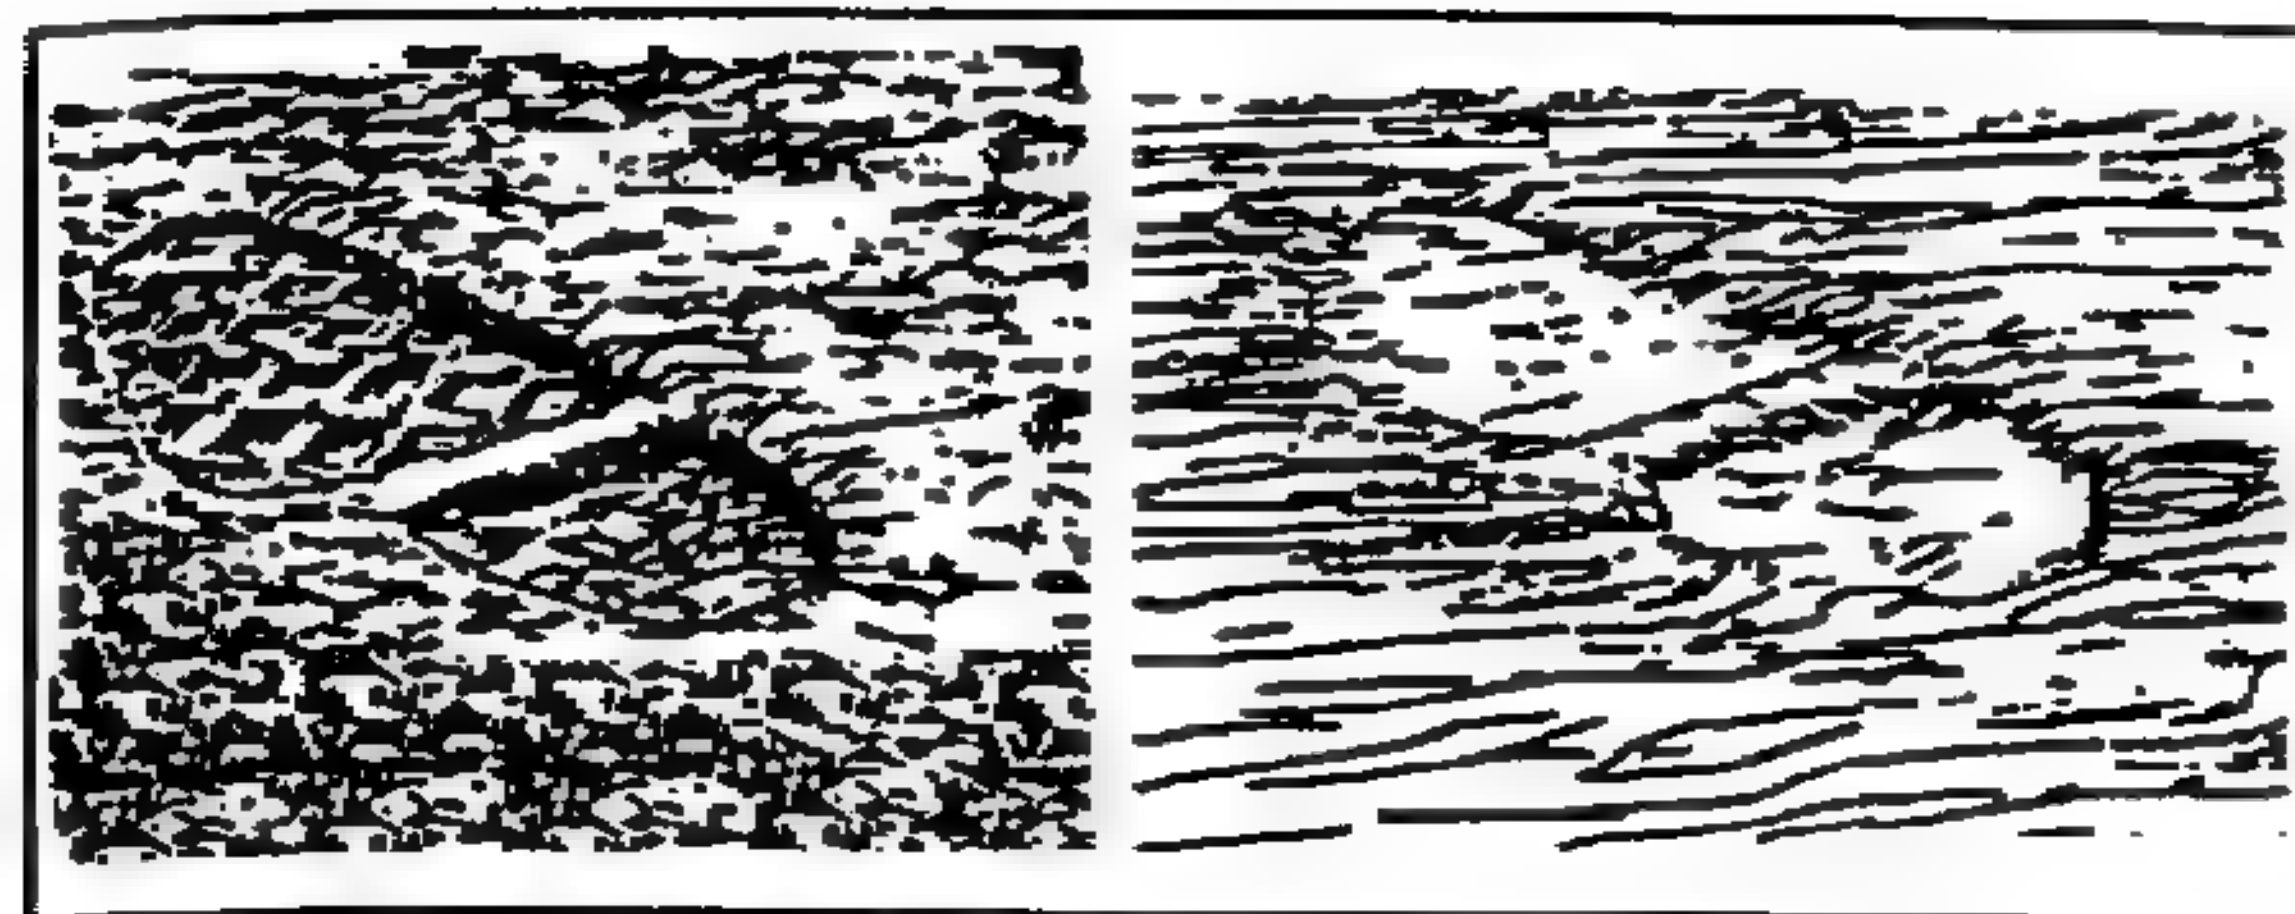

Figure 8-5. Weather effects on footprints.
b. Weather affects footprints (Figure 8-5). By carefully studying the weather process, the sniper can estimate the age of the print. If particles of soil are beginning to fall into the print, the sniper should become a stalker. If the edges of the print are dried and crusty, the prints are probably about one hour old. This varies with terrain and should be considered as a guide only.